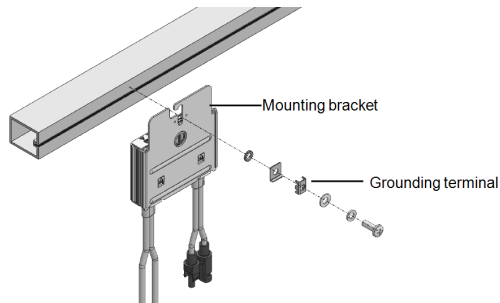

Figure 6: Power optimizer grounding terminal
- For mounting on un-grounded structures** (such as a wooden structure): If the star washer or the plate cannot be used, use the SolarEdge grounding lug (purchased separately) with an equipment-grounding conductor according to the supplied instructions. The grounding terminal accepts a wire size of 6-14 AWG, and must be sized for equipment grounding per NEC 250.122 requirements. Tighten the screws connecting the power optimizer to the frame and the grounding terminal screw. Apply torque of 9.5 N*m / 7 lb*ft. See *Figure 6*.